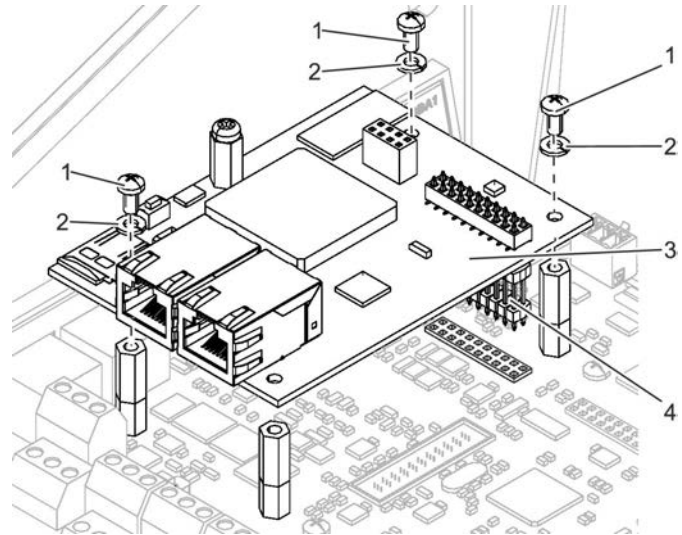

Fig. 49: Removing EM-IP
5. ▶ Remove the fixing screws (Fig. 49/1) and washers (Fig. 49/2), then remove EM-IP (Fig. 49/3) with the pin header (Fig. 49/4).